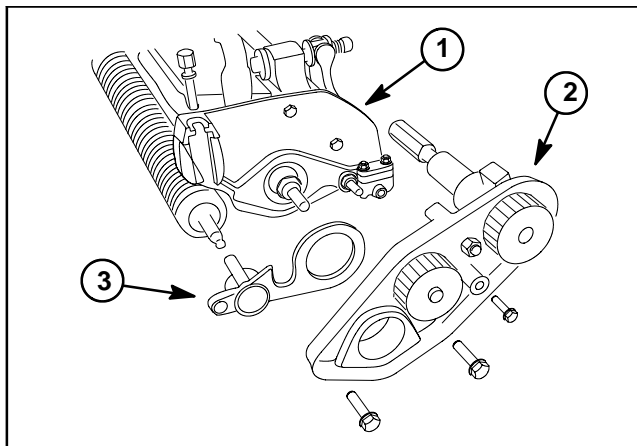

Figure 18
4. To remove LH support plate assembly from left side of cutting unit (Fig. 18):